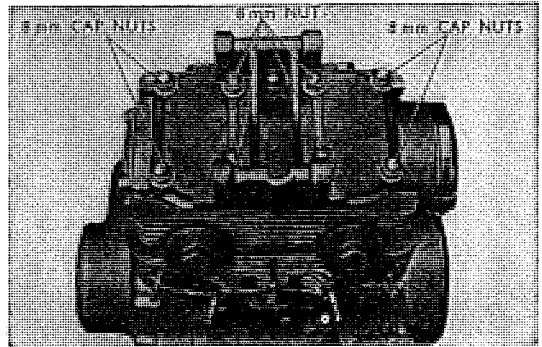

Fig. 3.13 Cylinder head cover nuts and bolts
1. Remove the cylinder head cover. (Refer to Fig. 3.13)